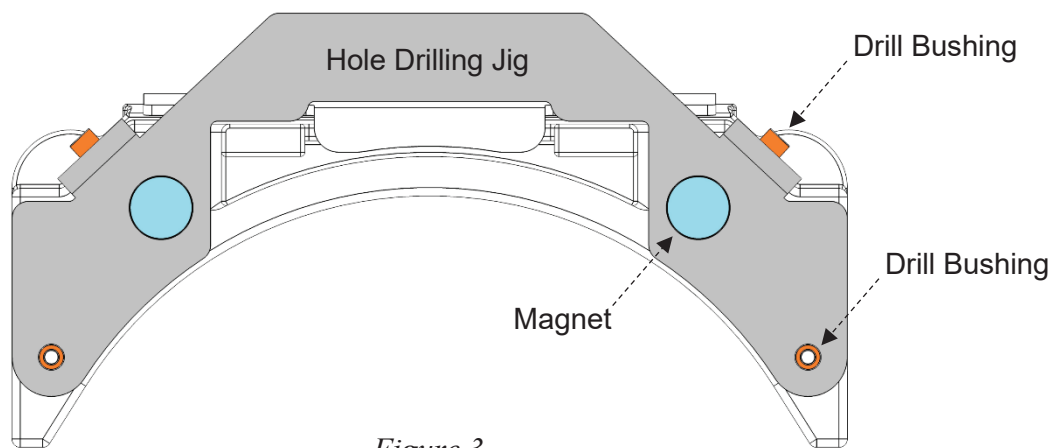

Figure 3
- 5.4.1. Place the Hole Drilling Jig onto the face of the Bearing Adapter as shown in *Figure 3*. Magnets in the Jig will help secure it onto the adapter.